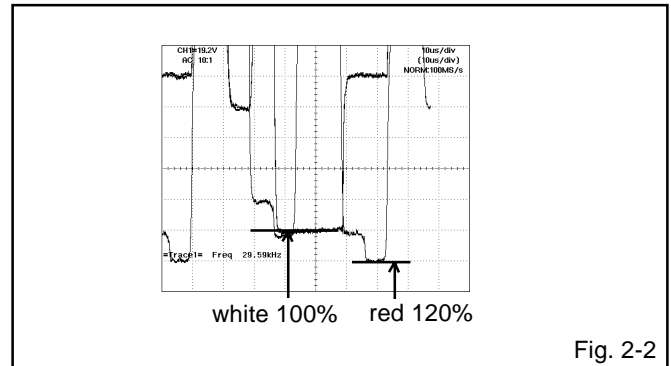

Fig. 2-2
7. Press the VOL. UP/DOWN button on the remote control until the red color level is adjusted to $120 \pm 10\%$ of the white level. **(Refer to Fig. 2-2)**